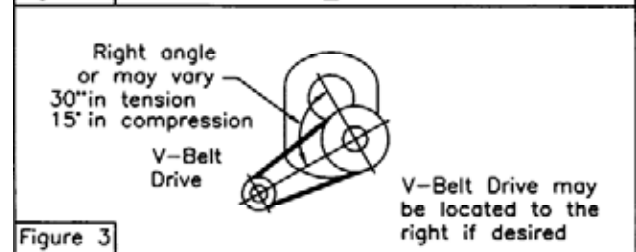

Figure 3
- Install motor and V-belt drive so belt will approximately be at right angles to the center line between driven and input shaft. (See Fig. 3) This will permit tightening the V-belt with the torque arm.